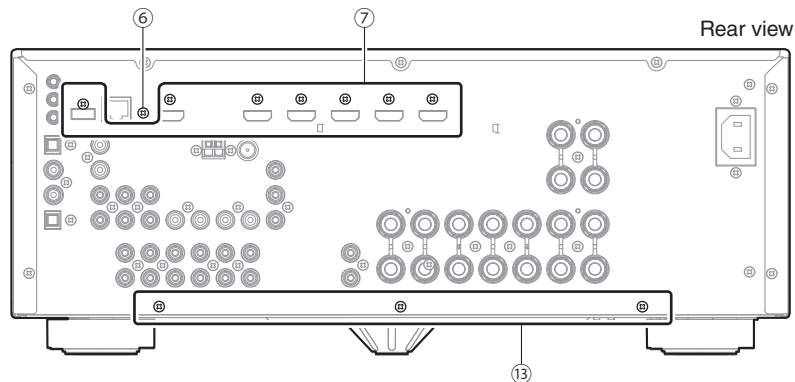

Fig. 3
- Remove 3 screws (13). (Fig. 3)